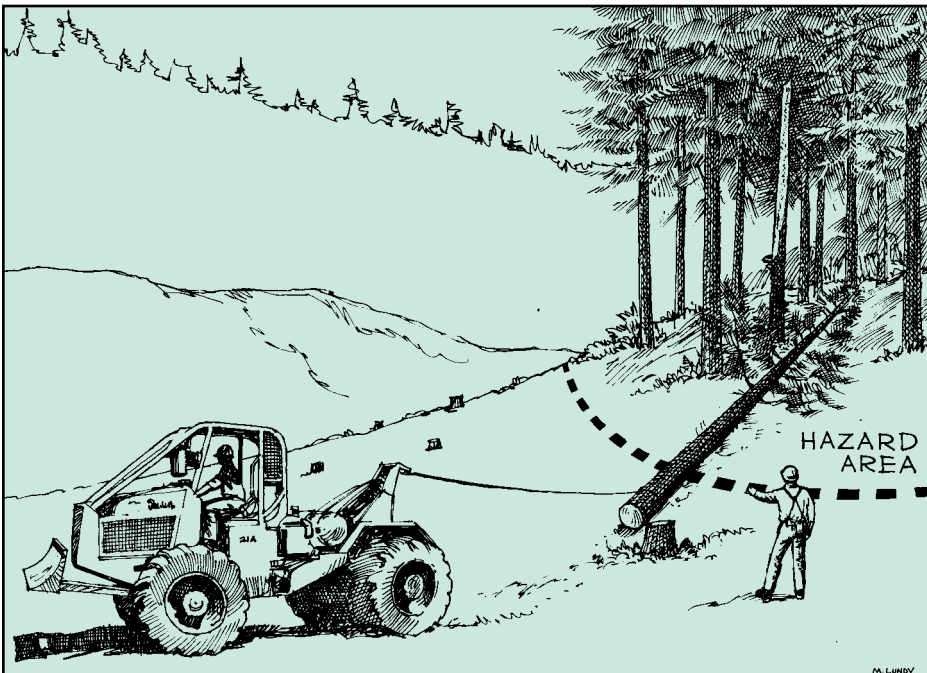

Fig. 14. — Reaching trees from outside the hazard area.
- If trees fall into the hazard area of a Type 3 or 4 reserve tree, leave them unbucked so they can be choked or grappled without having workers or the cab of machinery entering the hazard area (Fig. 14).